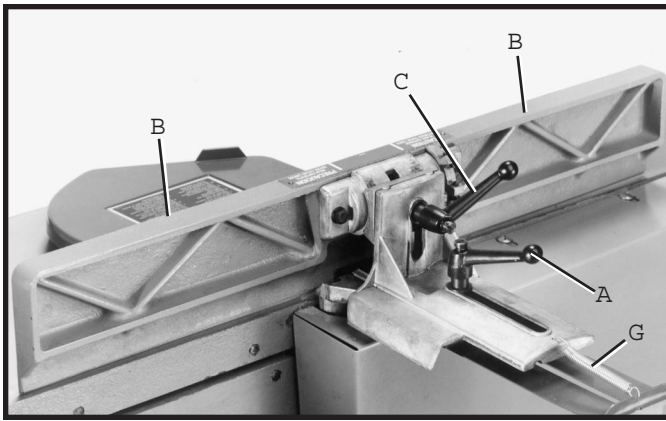

Fig. 36
1. To move the fence across the table, loosen lever (A) Fig. 36, slide the fence (B) to the desired position and tighten locking lever (A).
2. To tilt the fence (B) Fig. 36, loosen lever (C) and tilt the fence to the desired angle and tighten lever (C). NOTE: Levers (A) and (C) are spring-loaded and can be repositioned by pulling outward on the levers and repositioning them on the serrated nut located underneath the levers.